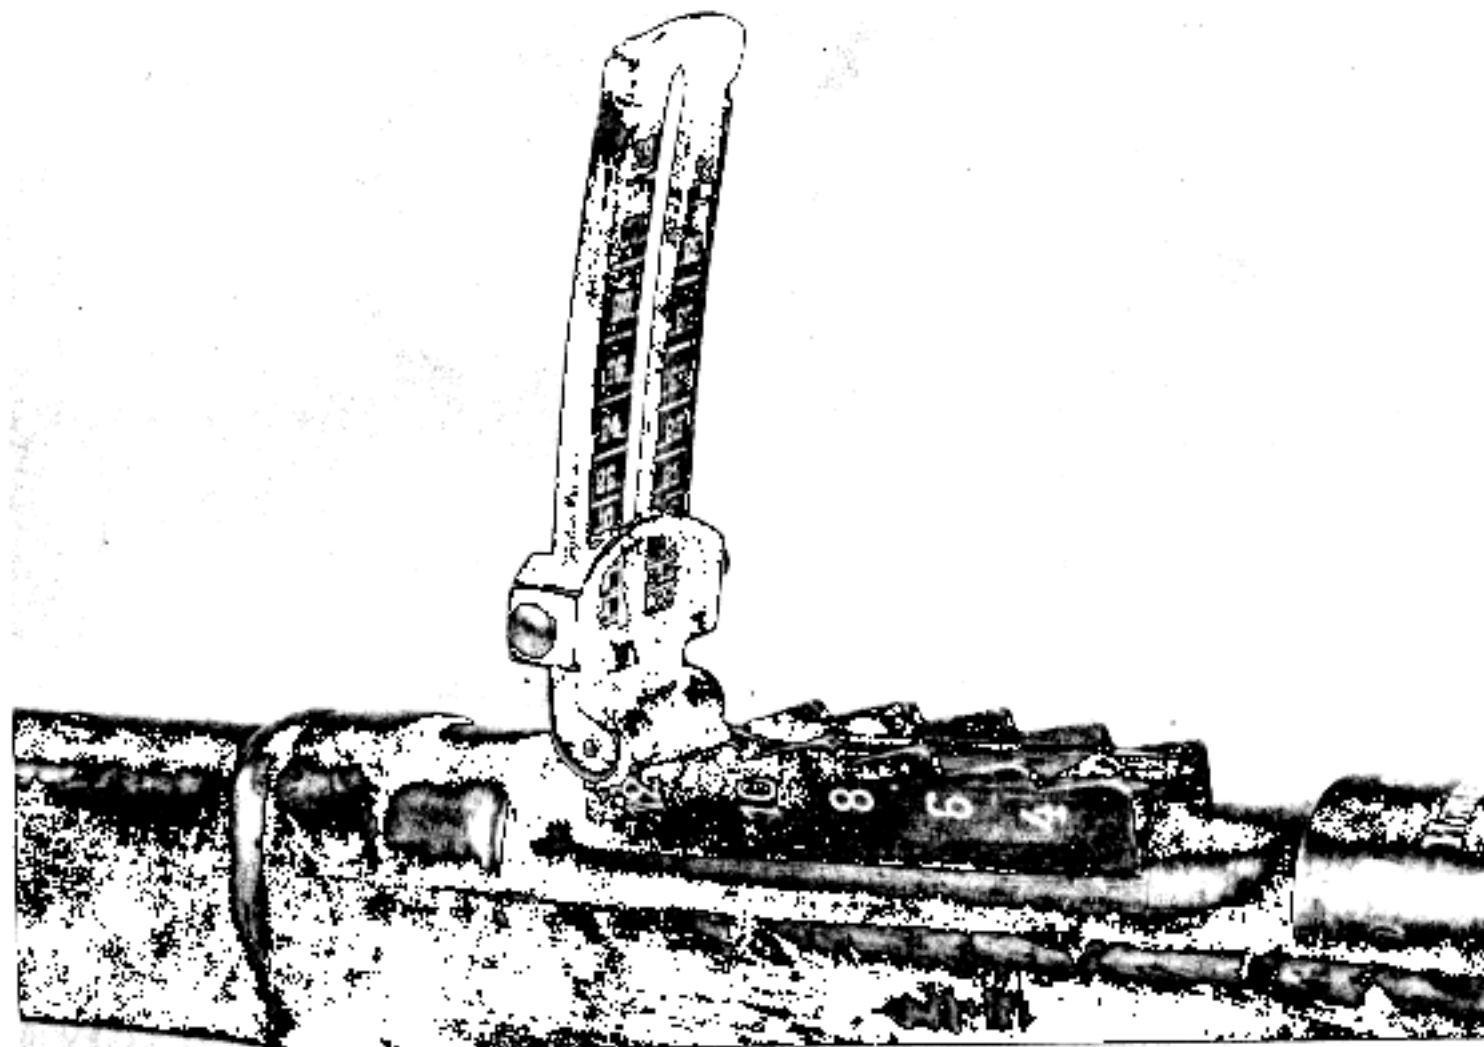

FIGURE 2. REAR SIGHT FOR RIFLE M1991.
a. This rifle has a notched-ramp leaf-type rear sight (fig. 2) which has no provision for windage. The sight is graduated from 400 to 9,200 meters (437 to 1,000 yards).